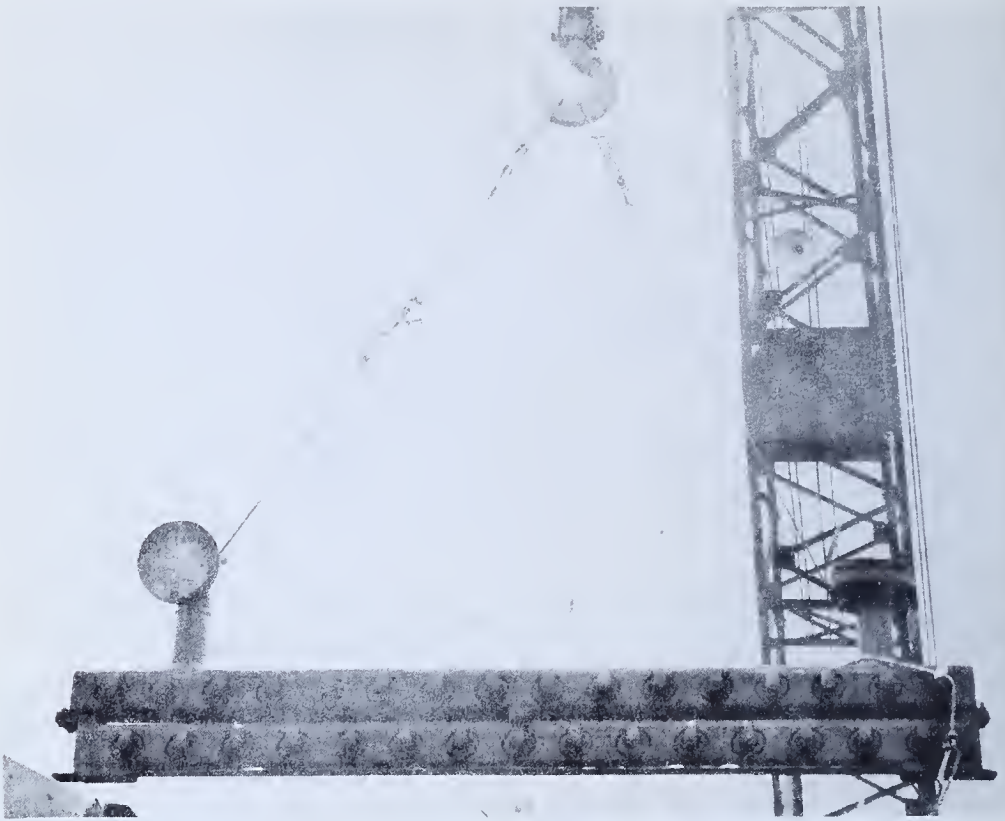

FIG. 508 — *A Superheater Header*
7. Clean thoroughly the superheater header, Fig. 508.